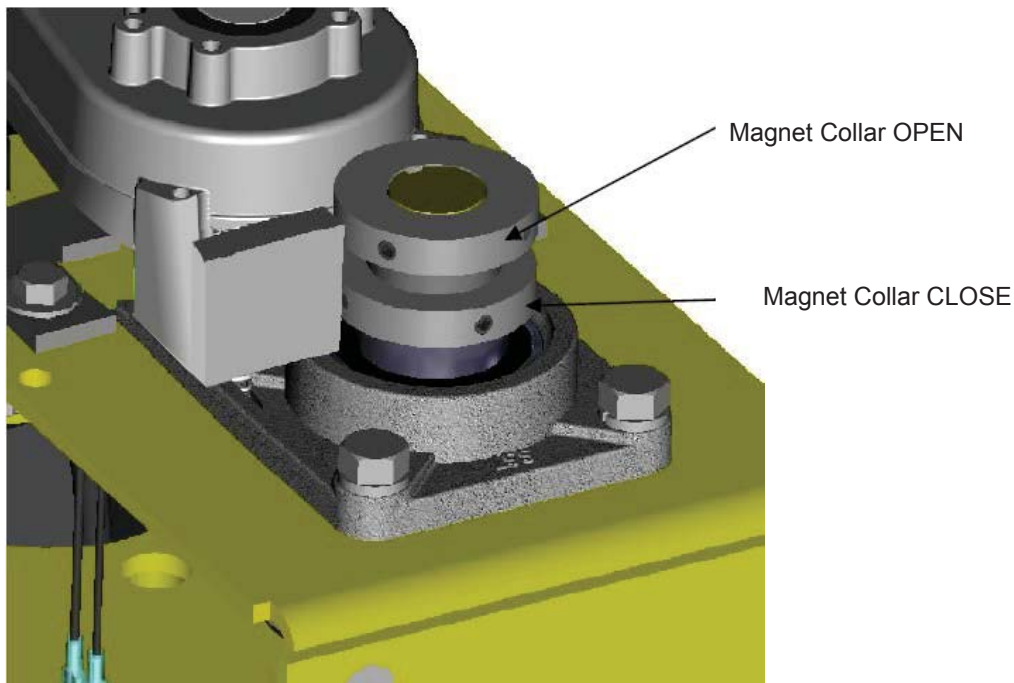
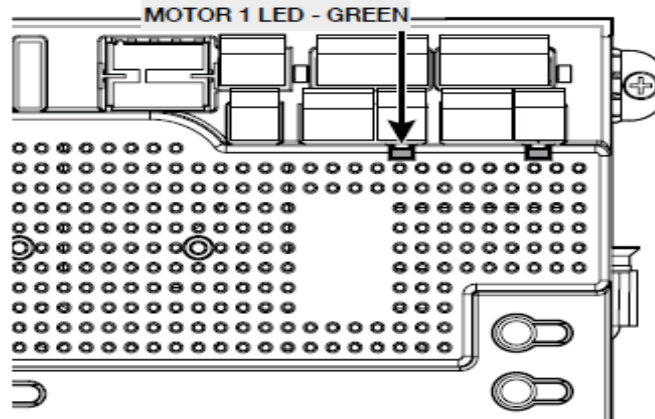
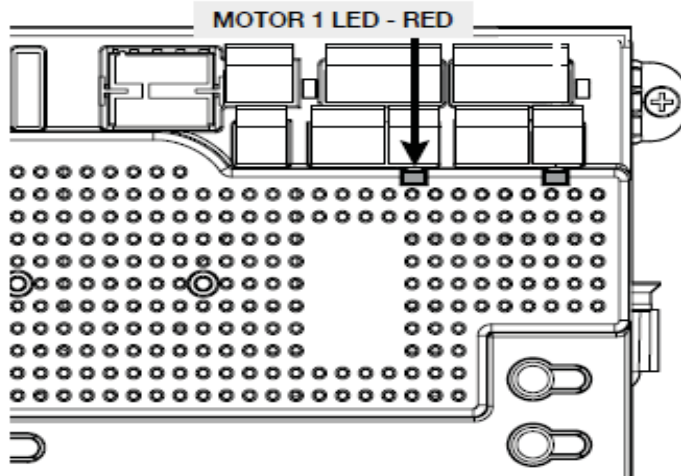

Figure 16: Limit Assembly
Figure 17: Green Open LED
Figure 18: Red Closed LED
5. Adjust the Collar Open (See Figure 16) until the GREEN light illuminates on the front of the control board (See Figure 17). The FULLY OPEN limit switch is now set.
7. Adjust the Magnet Collar Close (See Figure 16) until the RED light illuminates on the front of the control board (See Figure 18). The fully CLOSED limit switch is now set.